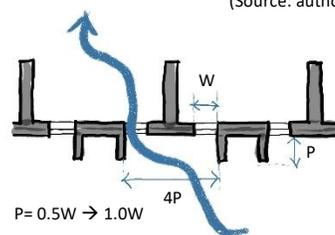

Fig. 28: Wing walls
f) **Wing walls** (Fig. 28) project outward next to a window, so that even a slight breeze against the wall creates a high-pressure zone on one side and low on the other. The pressure differential draws outdoor air in through one open window and out the adjacent one. Wing walls are especially effective on sites with low outdoor air velocity and variable wind directions.